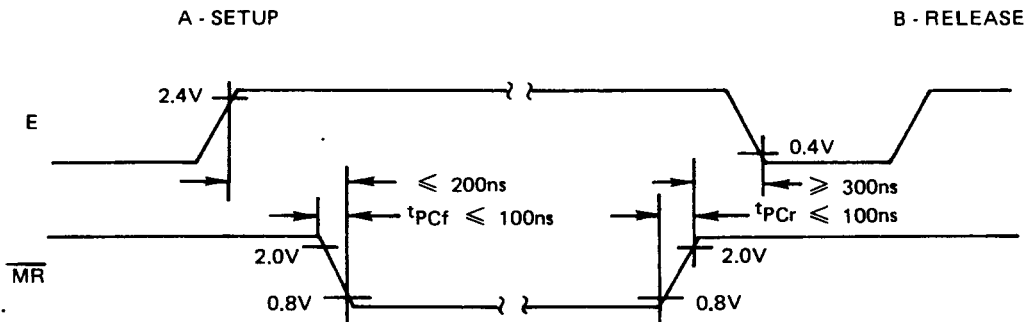

Figure 105a. Memory Ready Timing Diagram
A 4MHz crystal (Y1) is connected between pins 38 and 39 of U1 to provide a 1MHz clock signal for U1 and the rest of the counter. A divide-by-4 circuit on U1 performs the frequency division. The 1 MHz clock, E (O2), can be stretched integral multiples of half periods (500ns) by putting a logic 0 on the $\overline{\text{MEMORY READY}}$ (MR) input. The clock is stretched when interfacing with slow memories or I/O devices. See figure 105a.